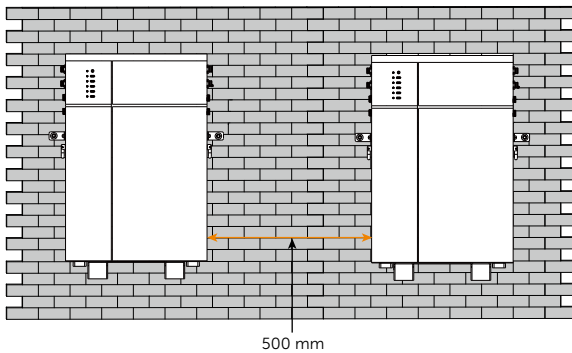

Figure 6-1 Installation options
- The Figure 6-1 takes two battery packs as an example.